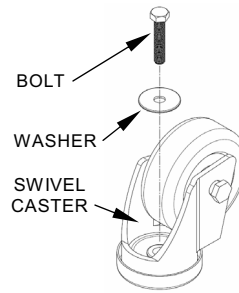

Figure 4
- Put two (2) carriage bolts through the rear (non-brake) side of the fixed caster and hold the carriage bolts loosely in place by threading several turns on each of the locking nuts. Do not tighten the bolts yet.
- Insert the two (2) front carriage bolts thru the top side of the caster rail and then thru the front holes on the caster. Attach locking nuts to each.
- Tighten all locking nuts securely using a 1/2 inch wrench (see Fig. 4).
- Place a washer on one of the six long bolts and then feed the bolt through the hole in one of the swivel casters (see Fig. 4).
- Next, place a washer on one of the six long bolts and then feed the bolt through the hole in one of the swivel casters (see Fig. 4).